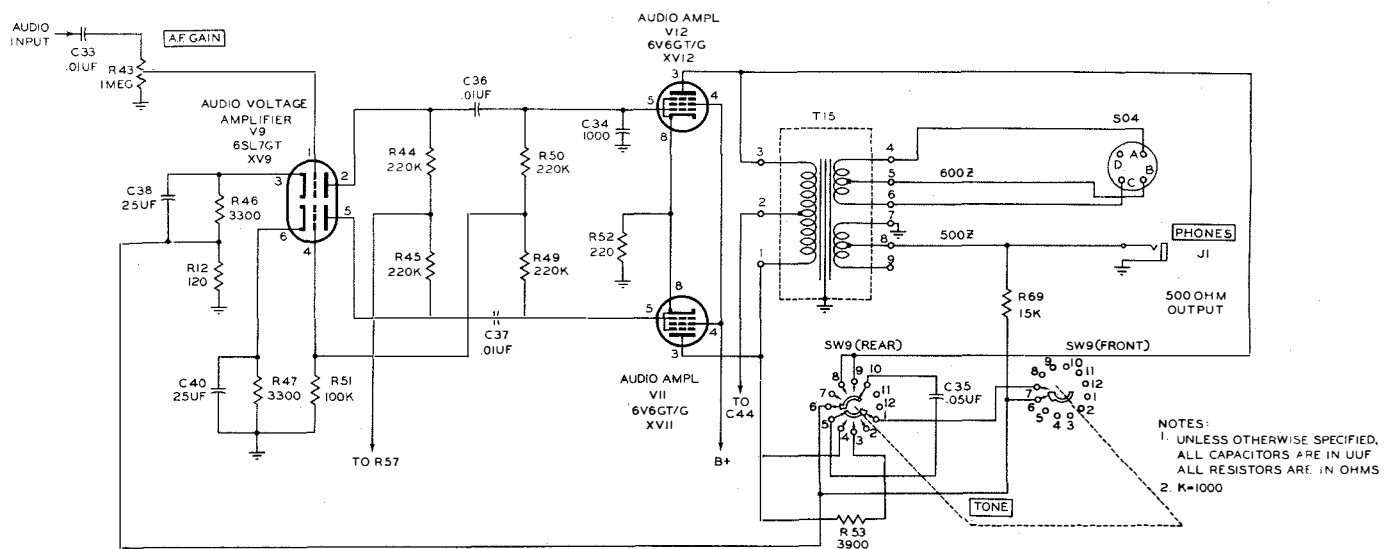

Figure 2-12. Radio Receiving Equipment Navy Model RBK-16, Audio Amplifier, Simplified Schematic Diagram.
a. In Radio Receiver RBK-16, the A.M.-F.M. switch SW8 selects either the output of the a-m detector or f-m discriminator stage (figs. 2-12 and 2-13). This selected audio voltage appears across the A.F. GAIN control R43, which is coupled